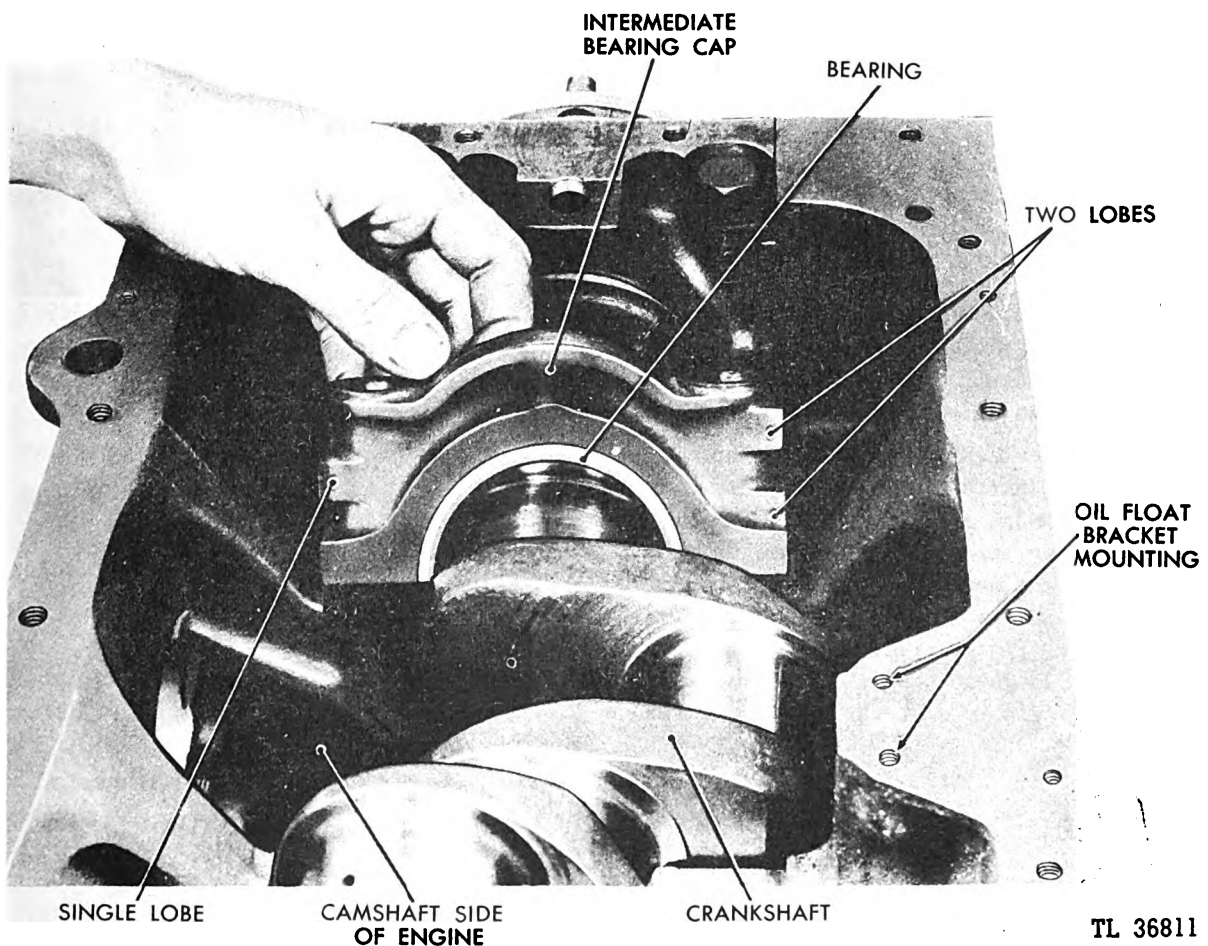
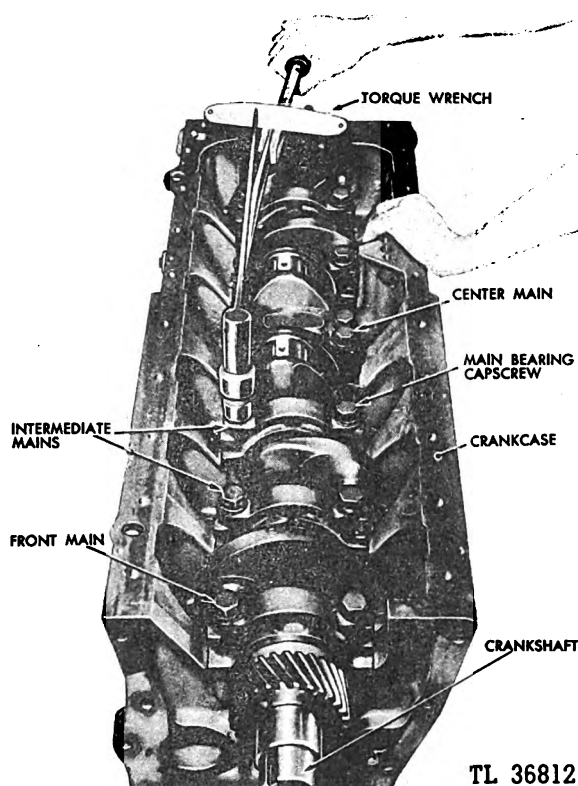

Fig. 159. Installing Bearing Caps
Fig. 160. "Torqueing" Main Bearing Capscrews
(7) The main bearing caps are numbered from 1 to 7, starting from the timing gear housing on the front end. With the bearings in place, these caps should be installed in their respective places so that the single cast lobe is pointed to the camshaft side of the engine. (See Figure 159.) Tighten the main bearing capscrews with a torque wrench to a tension of 150 to 160 foot pounds. (See Figure 160.) The bolt threads should be dry and clean. Turn the crankshaft by hand to be sure it is free. Before installing the lockwires, check the crankshaft end play. Slip a feeler gauge between the ends of the rear main bearing and the crankshaft, as shown in Figure 104, and run the feeler gauge clear around the shaft. The proper clearance is .003 inch to .007 inch desired; permissible .012 inch.